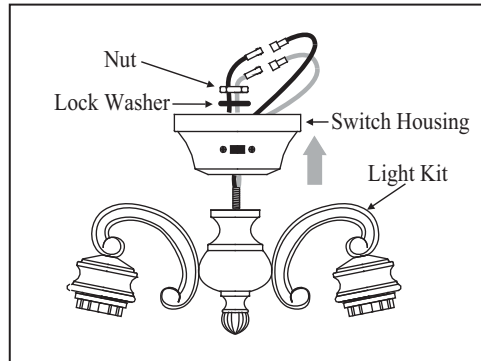

Figure 18
1. Attach the light kit to the switch housing by feeding the light kit wires (black and white) through the hole of switch housing and then screw it onto the switch housing by nut & lock washer. Be sure it is tight enough to prevent light kit from vibrating loose. (Fig. 18)